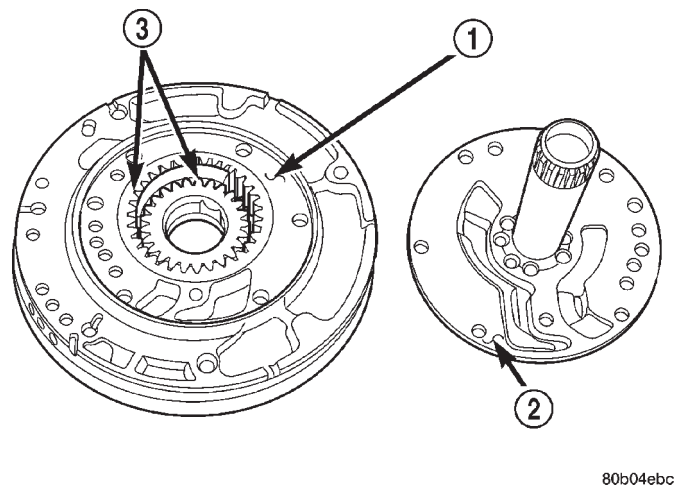

Fig. 174 Reaction Shaft Support
- (1) Remove the reaction shaft support bolts.
- (2) Remove reaction shaft support from pump housing (Fig. 174).